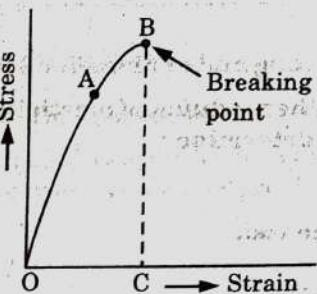

Fig. 1.10.1. Stress-strain diagram for brittle materials.
- Fig. 1.10.1 shows the stress-strain diagram for brittle material, in which strain is plotted along x -axis and corresponding stress is plotted along y -axis.